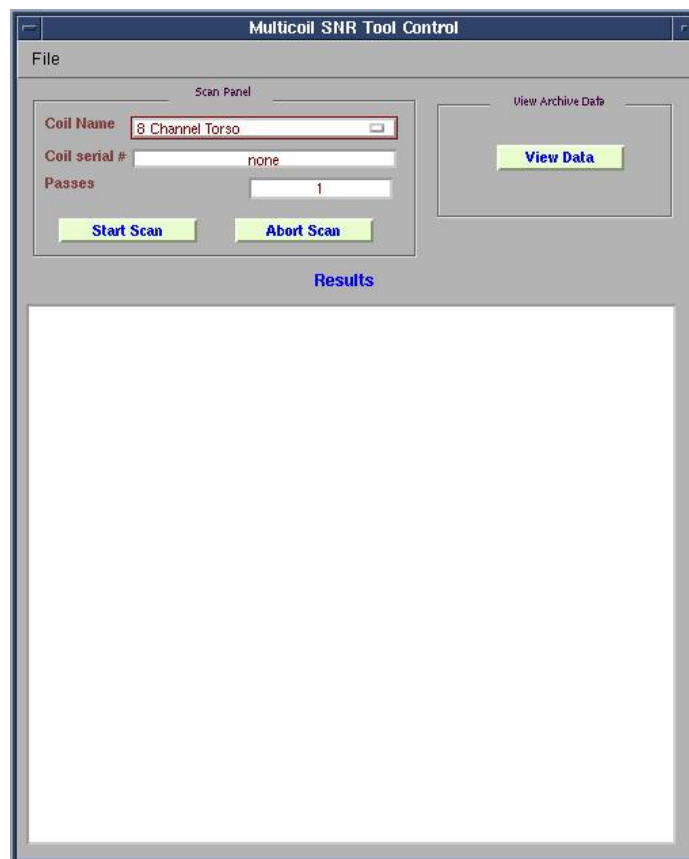

Figure 9: Multicoil SNR Tool Control window.
Step 8 – Select the **[8-Channel Torso Coil]** from the Coil Name selection menu on the Multicoil SNR Tool Control window (see *Figure 9*).
Step 1 – Click on the “**View Data**” button in the Multicoil SNR Tool Control window (see Figure 9).